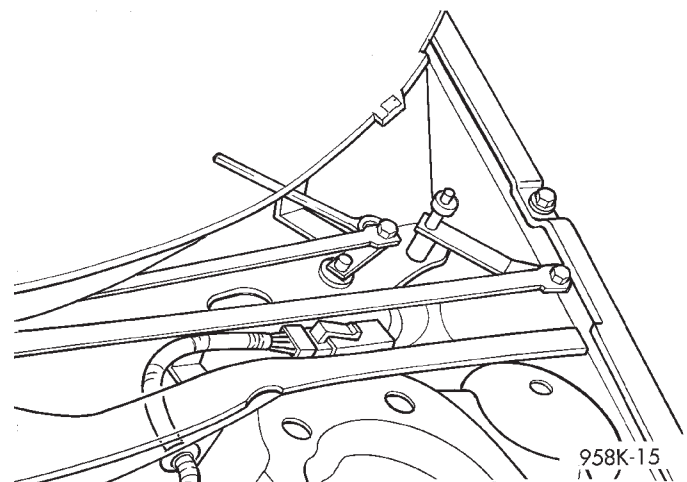

Fig. 17 Linkage Removal
- (1) Remove wiper arms and blades.
- (2) Remove the cowl screen.
- (3) Remove wiper motor assembly.
- (4) Disconnect wiper arm linkage, by using a ball joint/tie rod separator, separate the right and left ball cap from the ball (Fig. 17).
- (5) Disconnect drive link from the motor crank. Using an ball joint/tie rod separator and separate the ball cap from the ball.
- (4) Disconnect drive linkage from motor output crank. Using an ball joint/tie rod separator, separate the ball cap from the ball (Fig. 17).
- (5) Remove motor mounting nuts and remove motor.
- (6) Disconnect wire connector at motor.